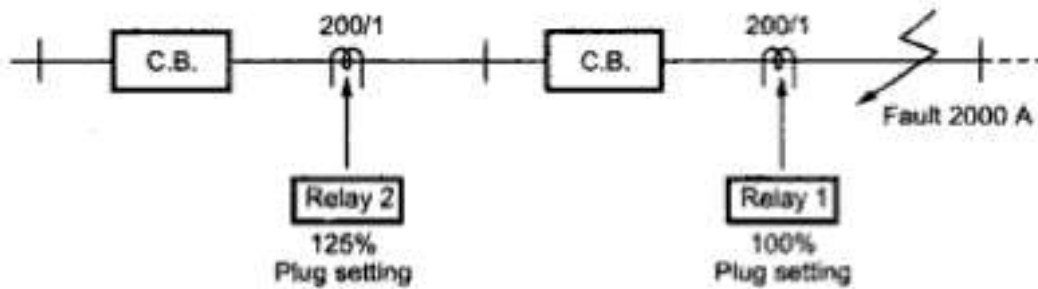

Fig. 2.25
18. For a particular transmission line, relays are used as shown in the Fig. 2.25.
Determine the time of operation of the two relays assuming that both the relays have characteristics as shown in the Fig. 2.25. The relay 1 has time setting multiplier of 0.2. Find the time setting multiplier of relay 2.